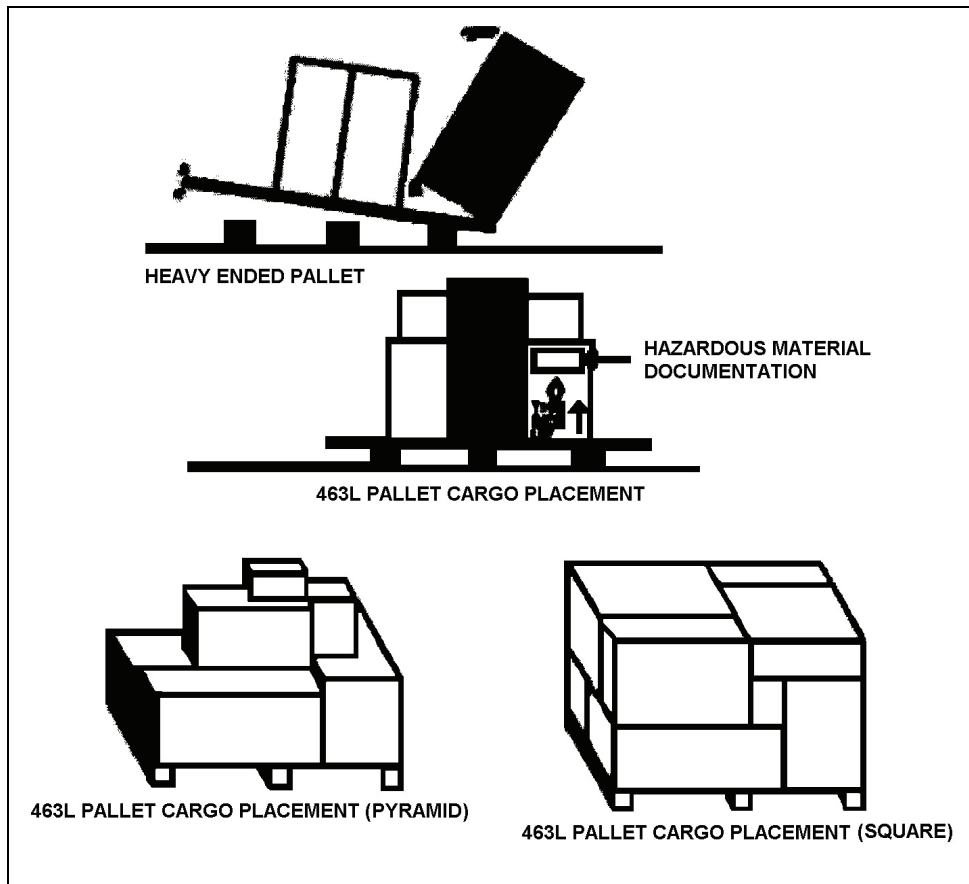

Figure 3-18. Palletizing Cargo
- (1) Arrange wooden 4" X 4" X 84" boards to form three rows of support.
- (2) Arrange a minimum of nine sandbags to provide two outer and one centerline of support.
- b. Palletize cargo from the heaviest to the lightest items by following these guidelines (see Figure 3-18):
- (1) Place all dense, boxed, or crated cargo on the pallet first.
- (2) Distribute large/heavy items evenly out from the center.
- (3) Build load in a square or pyramid shape for stability.
- (4) Place containers marked "This Side Up" upright.
- (5) Place labeled cargo with their labels facing out.
- (6) Place crushable/light density cargo on top of boxed and crated cargo.